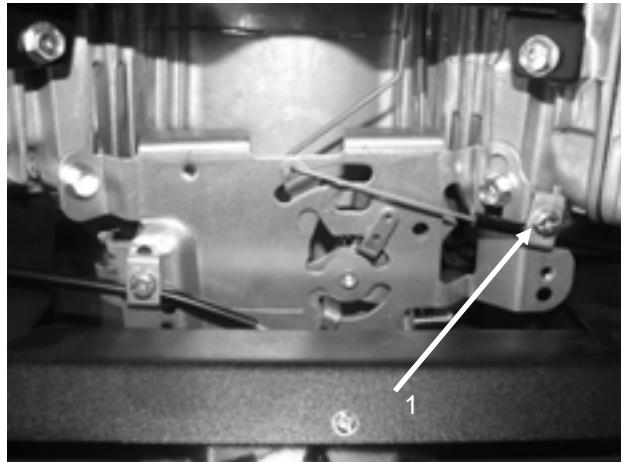

Figure 40
1. Using a 5/16 socket, loosen cable clamp end **Figure 40**.